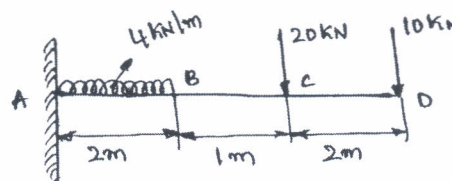

Fig.Q7(b)
- b. Find the slope and deflection at the free end of the cantilever shown in Fig.Q7(b). $E = 200 \text{ KN/mm}^2$, $I = 40 \times 10^6 \text{ mm}^4$.